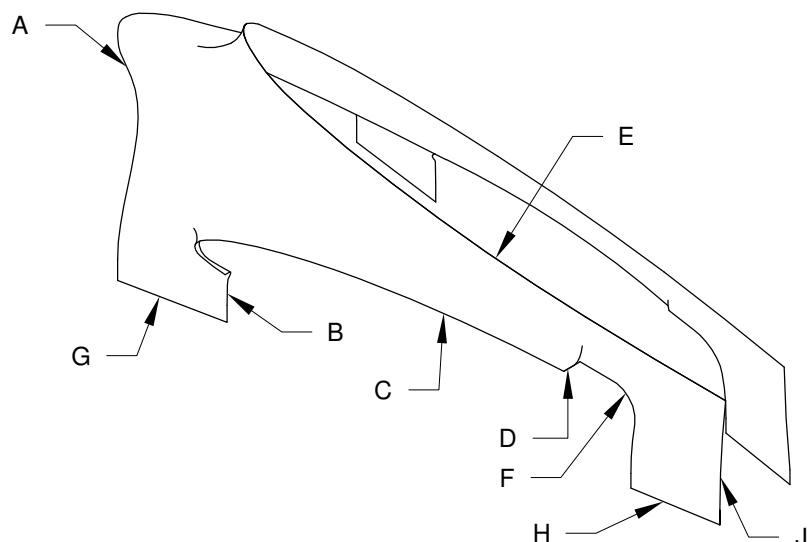

FIGURE 1: EMPENNAGE FAIRING TRIM
Step 2: Trim the F-1094B Empennage Fairing, edge A as shown in Figure 1 to meet the scribe line in the part for this edge.
Step 4: Mark the F-1094B Empennage Fairing for trimming. See Figure 1 for edge callouts. Mark edge B flush with the front edge of the F-1094A Empennage Gap Cover. Edge C is indicated by a scribe line, check that this line will provide enough screw hole edge distance and remark the line if necessary. Edge C is parallel to the inboard edge of the HS-1001 Horizontal Stabilizer Skin but different widths at the forward and aft edges. Mark edge D flush with the aft top edge of the horizontal stabilizer skin. Edge E is indicated by a scribe line, check that this line will provide enough edge distance and remark the line if necessary. Edge E should parallel the aft lower edge of the VS-1001 Vertical Stabilizer Skin and then curve upwards towards leading edge of the vertical stabilizer assembly. Mark edge F as shown in Figure 3 to provide a minimum 1/4 clearance between edge F and the WD-605L/R Elevator Horns with the elevator assembly rotated through its full range of motion. Mark edges G and H even and parallel with the lower edge of the F-1075 Tailcone Aft Top Skin and empennage gap cover. See Figure 3. Mark edge J even with the aft edge of the F-1073 Side Skins and vertical stabilizer skin.
Step 5: Machine countersink the four holes (two per side) along edge G (see Figure 1) on each side of the aircraft, for the head of a #6 flush head screw. Working from the aft towards the front final-drill #27 and **carefully** machine countersink all holes in the empennage fairing along edges C and E, the aft most hole along edge H on the right and left sides of the aircraft and the three most forward fastener locations, for the head of a #6 flush head screw. Remove F-1094B Empennage Fairing. Trim away excess material.